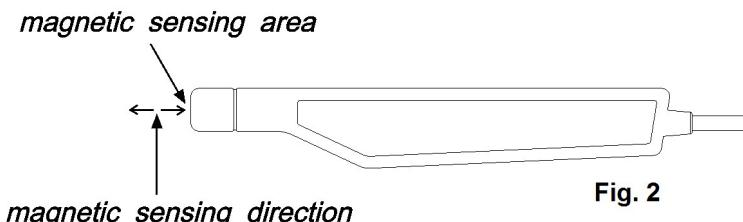

Fig. 2
3. Contact and close the testing material to the probe head (refer to Fig. 2, page 5) the display will show the magnetic field value along with the unit (mG,uT).